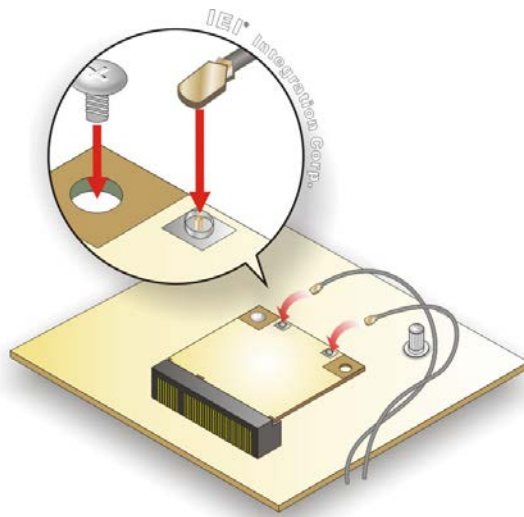

Figure 3-21: Securing WLAN Module and Connecting RF Cables
Step 6: Secure the WLAN module with the retention screw previously removed (**Figure 3-21**).
Step 7: Connect the two RF cables to the antenna connectors on the WLAN module (**Figure 3-21**).